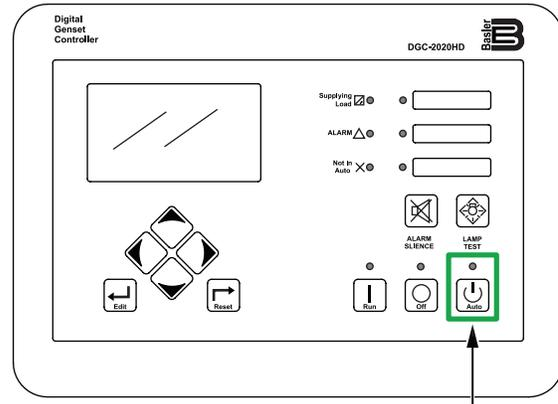

Figure 55. Digital Controller (Auto Button)
1. **On the first generator**, press the **Auto button** (Figure 55) on the digital controller. After the preheating process has completed, the engine will start automatically and the circuit breaker will turn **ON**.